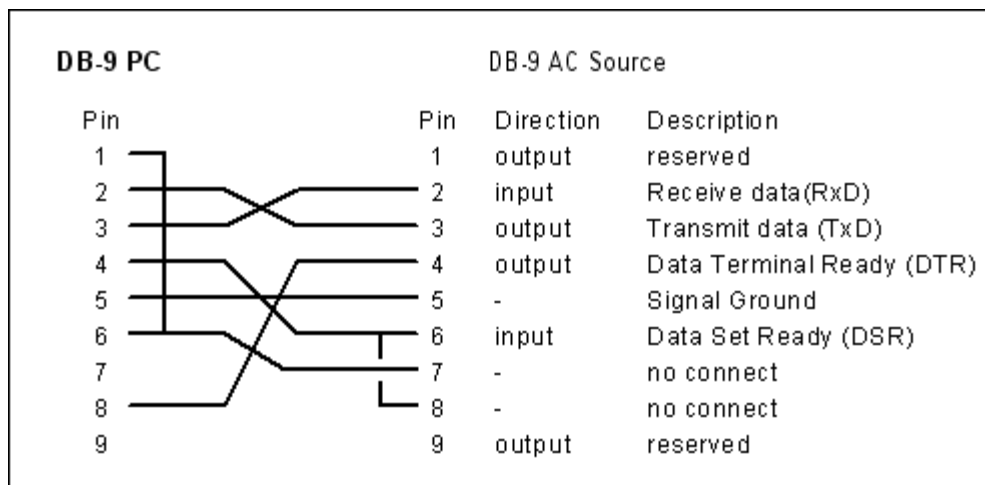

Figure 3-2: RS232C Cable for PC Connection wiring diagram.
The output terminal block, TB2, is located at the rear of the unit. The external sense inputs allow the power system output voltages to be monitored directly at the load and must be connected either at TB2 or the load when the sense is programmed for external. The external sense input does not have to be connected when Internal Sense is programmed. The external sense wires are to be connected to TB3 on the rear panel and should be run as a twisted pair for short lengths. Sense leads over three (3) feet long should be run as a twisted shielded pair. Refer to Figures 3-2 through 3-12 for all connections.